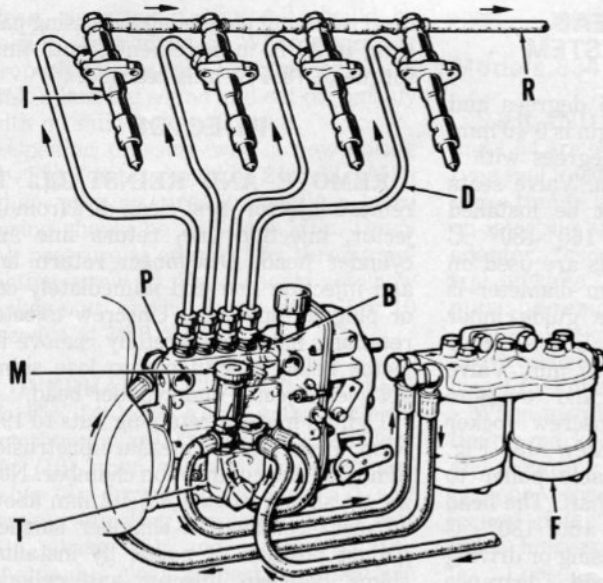
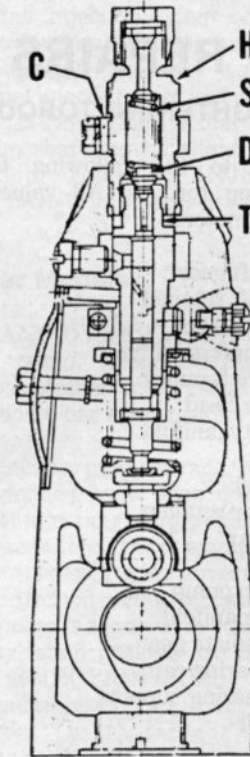

Fig. L3-4—Fuel circuit diagram for Models 834 and L54.
Fig. L3-8—Cross-sectional view of Bosch PES fuel injection pump.
BLEED FUEL SYSTEM. To bleed the fuel system on Models 834 and L54, open the bleed screw on fuel filter housing then operate primer (M—Fig. L3-4) on fuel transfer pump until air-free fuel flows. Retighten bleed screw. Open the fuel injection pump bleed screw (B), then operate primer (M) until air-free fuel flows and retighten bleed screw. Loosen high pressure line fittings at injectors. Rotate engine to operate fuel injection pump until air-free fuel flows from fittings, then retighten fittings.
(M). Disconnect number 1 injection line from fuel injection pump. Loosen clamp (C - Fig. L3-8) and remove delivery valve holder (H). Remove spring (S) and delivery valve (D) then reinstall delivery valve holder (H). If available, attach a spill pipe to holder. Loosen injection pump retaining nuts. Operate primer pump (M - Fig. L3-4) and rotate injection pump so fuel flows from delivery valve holder or spill pipe. Rotate injection pump until fuel just stops flowing and tighten injection pump retaining nuts to 29.4 N·m. Reinstall delivery valve and spring and connect injection line.